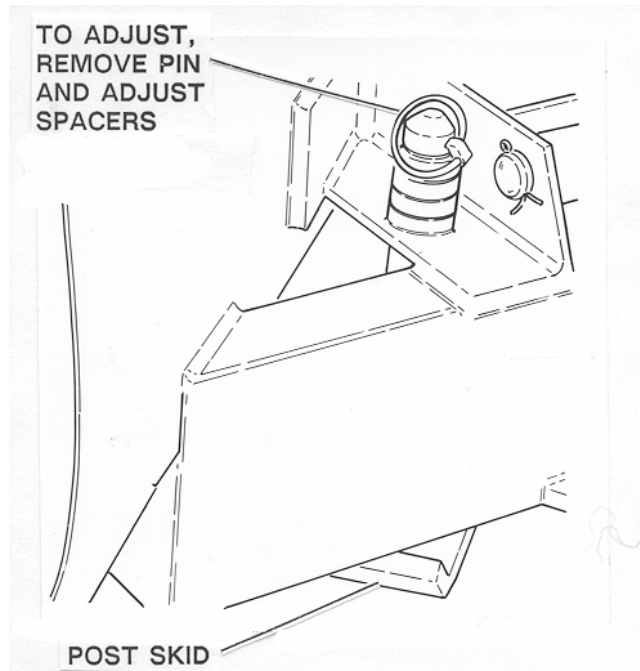

Figure 5
4. If the plow will be used on concrete or asphalt surfaces, the post skids (Fig. 5) must be adjusted upward so the plow contacts the surface. By contrast, skids must be adjusted downward—raise plow off surface—when plow will be used on gravel or crushed rock surfaces.